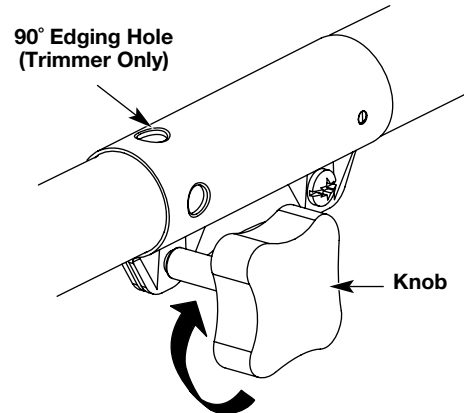

Fig. 11
3. Turn the knob clockwise to tighten (Fig. 11).
For edging (when using the line head cutting attachment with EZ-Link™ models), lock the release button of the cutting attachment into the 90° edging hole (Fig. 11).